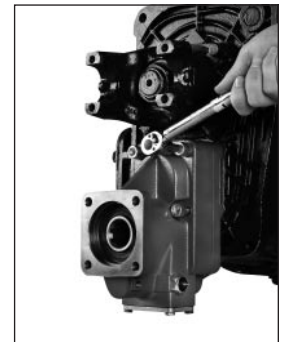

Figure 4
4. Torque the four bolts to 53-58 Lbs. ft. [71-79 N.m] (See **Fig. 4**).